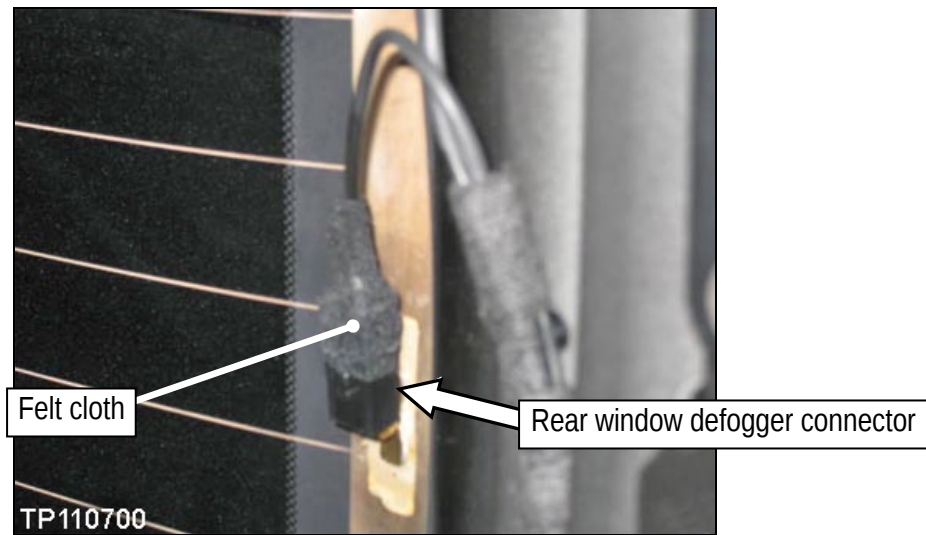

Figure 31f
30. Cut two 50 mm pieces from the roll of tape, and then wrap one piece on each of the two rear window defogger connectors (see Figure 31f).